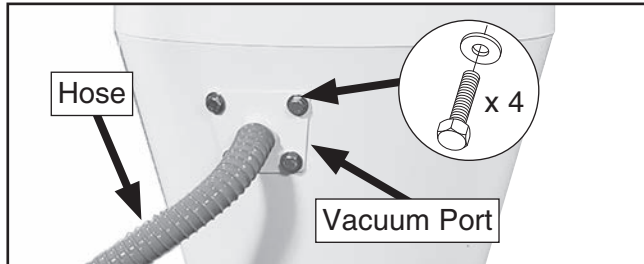

Figure 19. Cyclone vacuum tube and hose attachment.
18. Attach vacuum port to cyclone funnel with (4) $\frac{5}{16}$ "-18 x $\frac{3}{4}$ " hex bolts and $\frac{5}{16}$ " flat washers (see **Figure 19**).
19. Attach vacuum hose to cyclone vacuum port (see **Figure 19**), and secure with vacuum hose clamp.